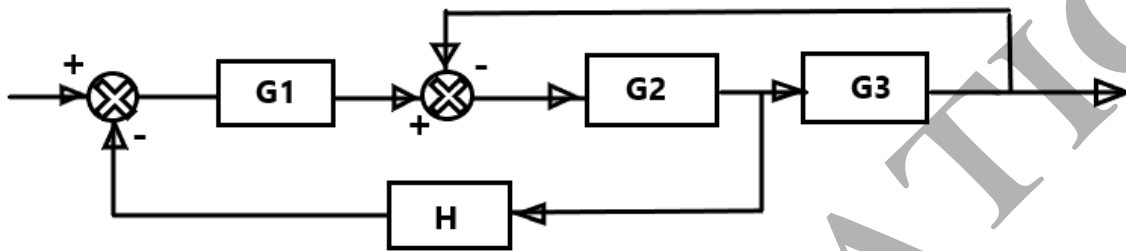

Figure 2a
- (a) Consider the system block diagram shown in Figure 2a.